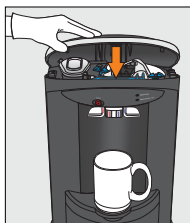

Figure 40
15. Close the top cover of the cooler (Figure 40) (push downwards to lock into place)